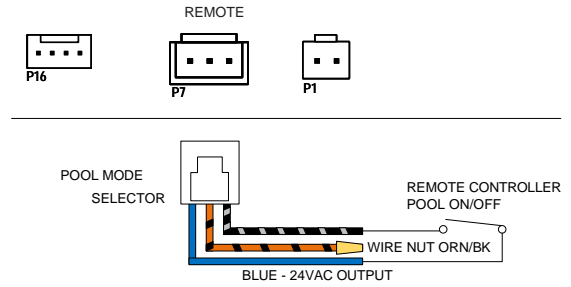

Figure 58. 2-Wire Remote Harness Installation
9. Attach wire nut on the ORANGE/BLACK wire of the 3-wire remote harness. See Figure 58.